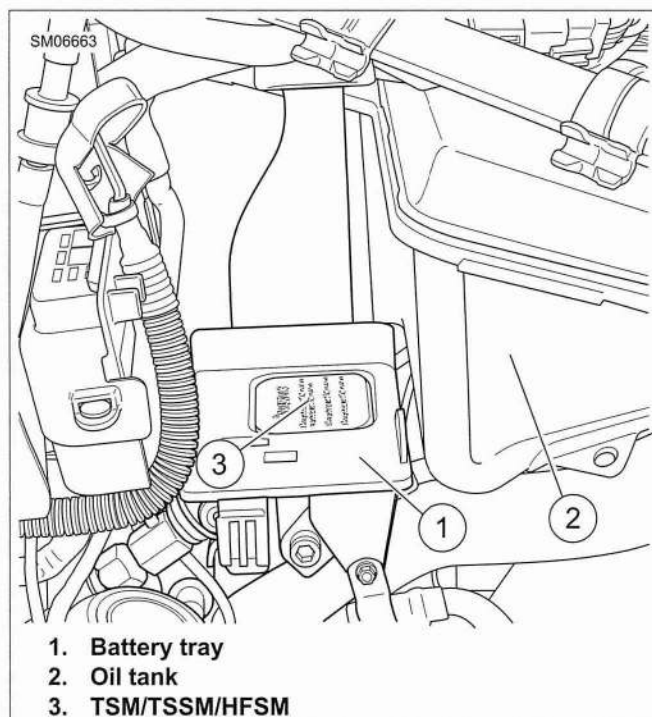

Figure 6-21. TSM/TSSM/HFSM Location: All Models
See Figure 6-21. The TSM/TSSM/HFSM (3) is located in a cavity in the bottom of the battery tray (1).